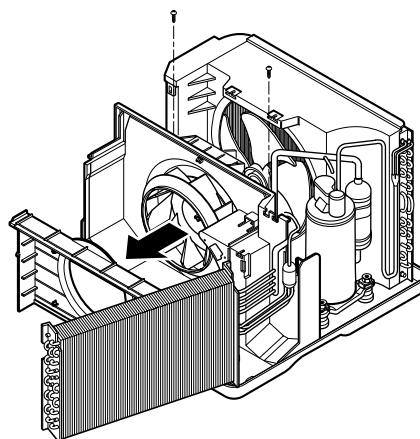

Figure 21
10. Pull out the hook of orifice by pushing the tabs and remove it. (See Figure 21)